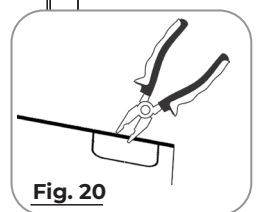

Fig. 20
3. **Optional:** If the PC Bracket or Surface Conduit Bracket is installed, use pliers to remove the appropriate knockout located at the top of the cover. (Fig. 20)